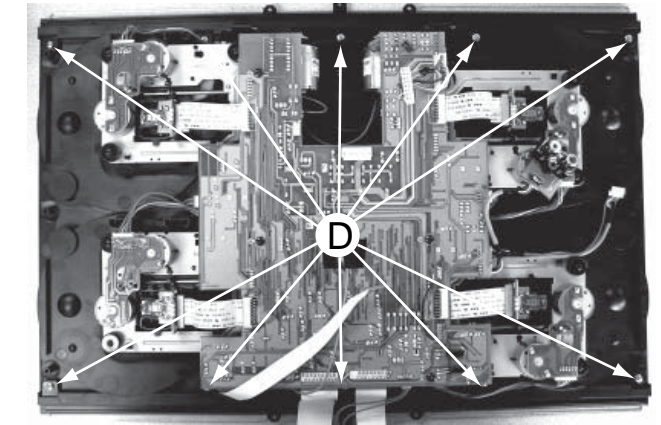

Figure 3
- 3) Loosen 10 screws D (see Figure 3) to remove the CD Door Track, then remove Left and Right CD Door.